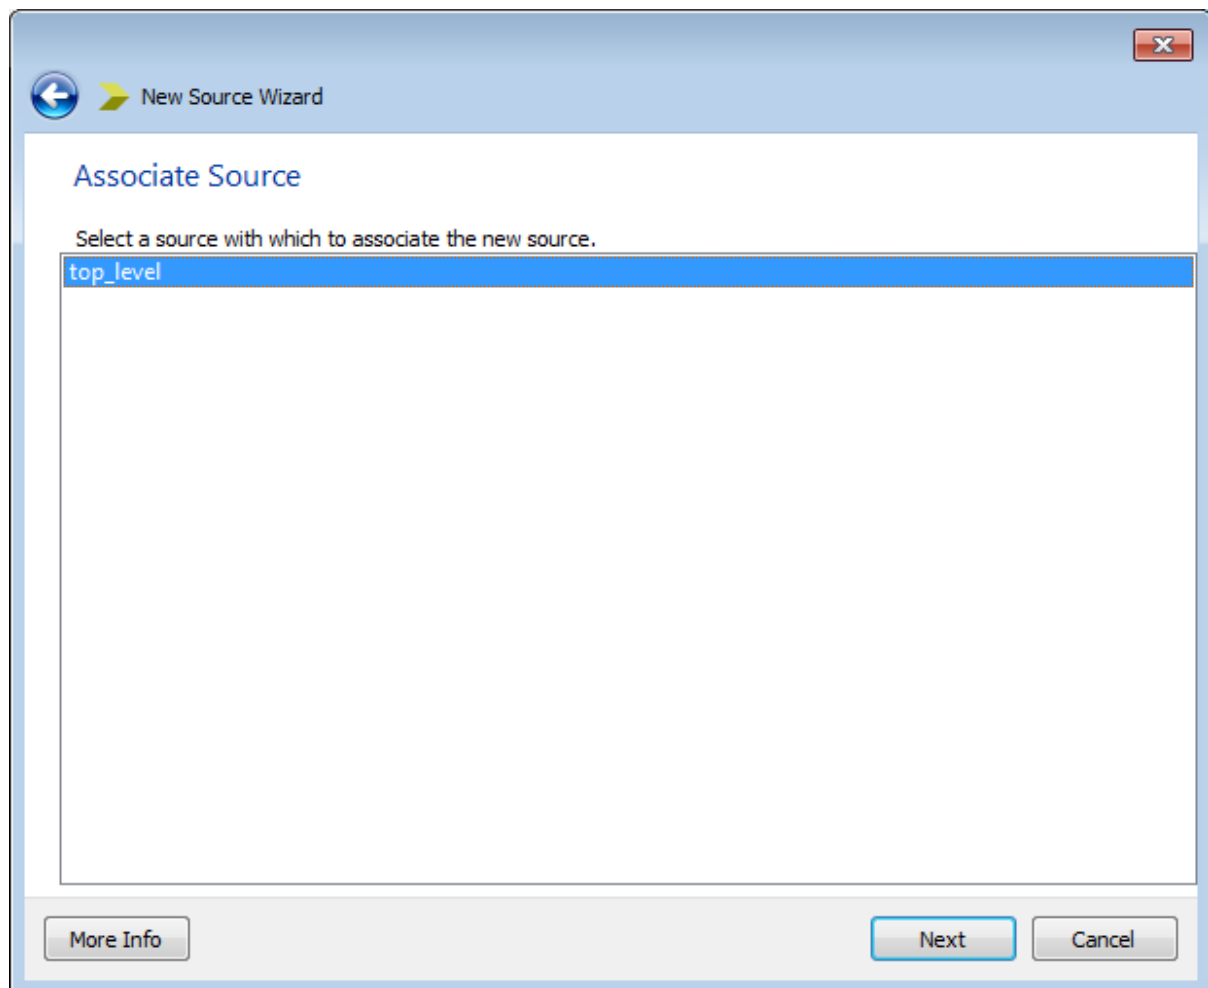

Figure 4.2: New Source Wizard, Associate Source window.
2. The **Associate Source** window will appear as shown in Figure 4.2. `top_level` is highlighted as the source to be associated with the new test bench. Click **Next**.